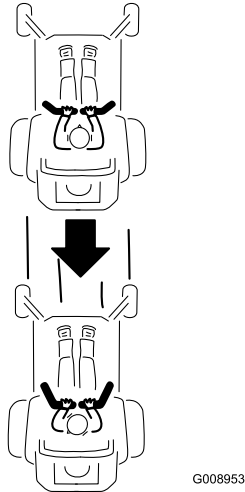

Figure 20
- To go backward, look behind you and down as you slowly pull the motion control levers rearward (Figure 20).
To go straight, apply equal pressure to both motion control levers (Figure 20).